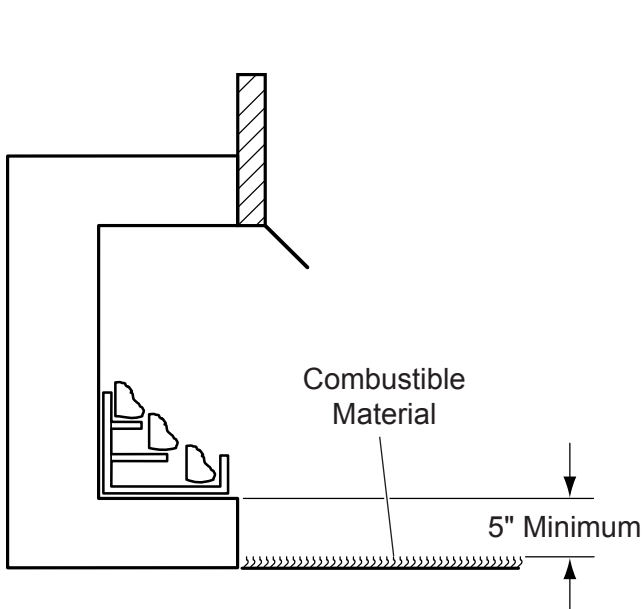

Figure 6 - Minimum Clearance above Combustible Flooring
5. **Floor clearance:** This inner chamber firebox floor must be installed at least 5" above any combustible flooring material, such as carpeting or asphalt tile, which is closer than 14" to the base of the firebox. *See Figure 6*.